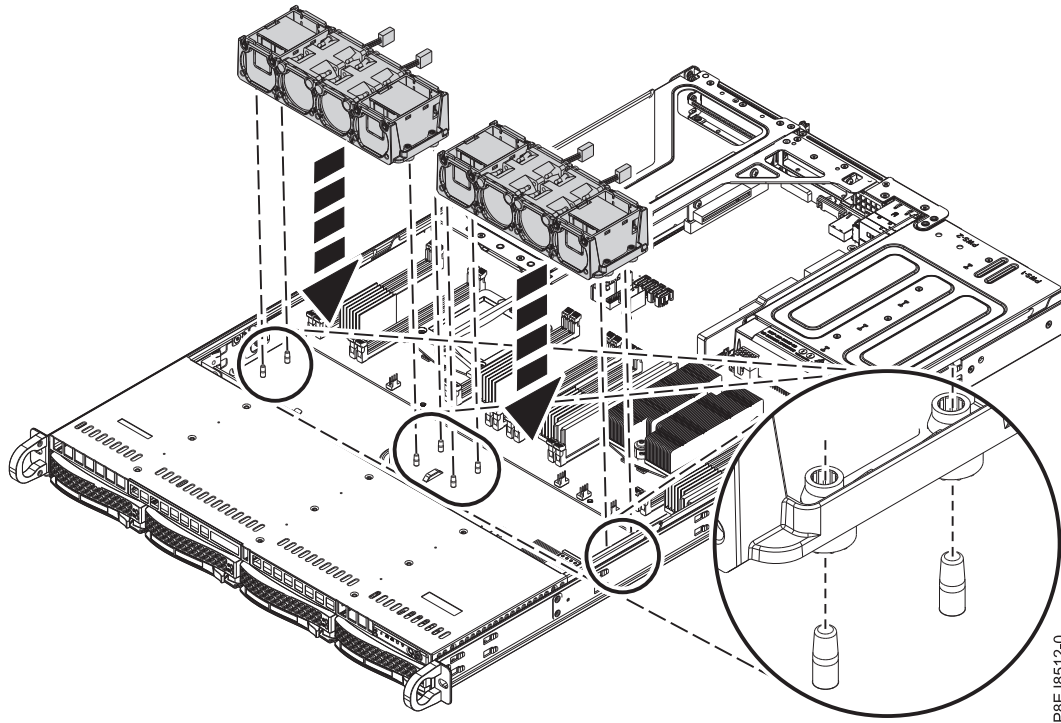

Figure 15. Aligning the fan holder
3. Replace the fan holder into the chassis. Align the holes in the fan holder with the pins in the bottom of the chassis as shown in Figure 15 on page 19. For the fan holder near the cover switch, temporarily move the cover switch wires out of the way. When the fan holder is seated into the system, replace the wires that are located next to the fan holder.